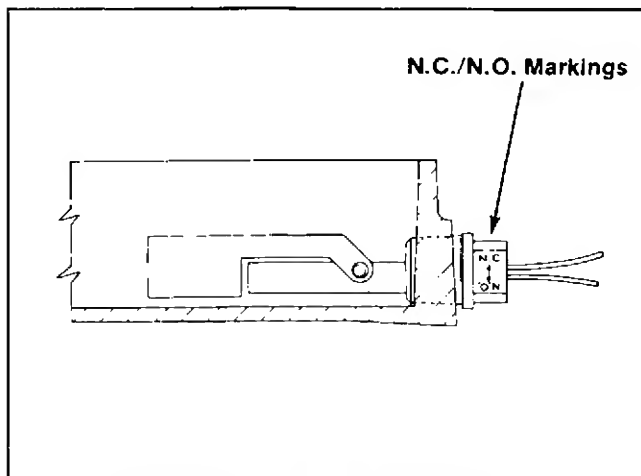

Figure 8-11. Float Switch Removal.
4. Using a 9/16" open end wrench, turn switch counterclockwise 1/4 TURN to loosen. STOP turning switch when flat surface on float switch is in a horizontal position. (Flat surface parallel with base of oil pan and N.C./N.O. markings down.) Refer to Figures 8-11 and 8-12.